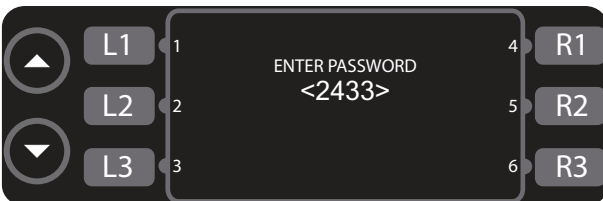

Figure 20: Password Screen
3. Input the password 2 4 3 3 (Figure 20).